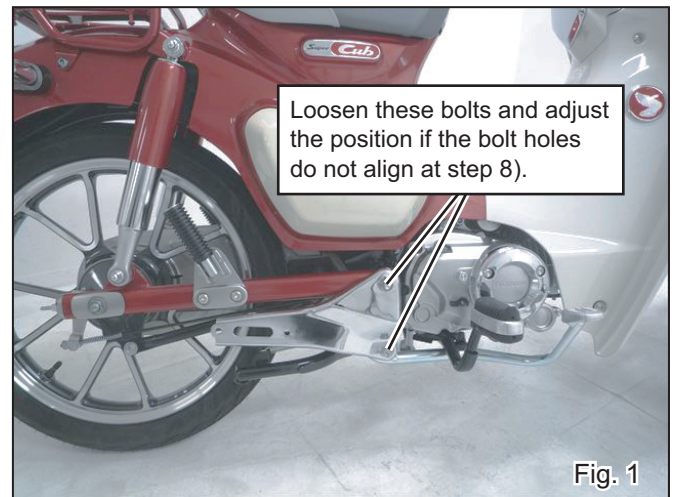

Fig. 1
- 2) According to Honda service manual, remove footrest and then remove stock exhaust system. (See Fig. 1)
REFERENCE If the bolt holes of Silencer Bracket #1 and Silencer Bracket #2 do not align, remove Silencer Assy once, loosen Cap Bolt M8x20 and adjust the position of Silencer Bracket #1. If this adjustment is not enough, refer Fig. 1 and loosen footrest bracket to adjust the position.